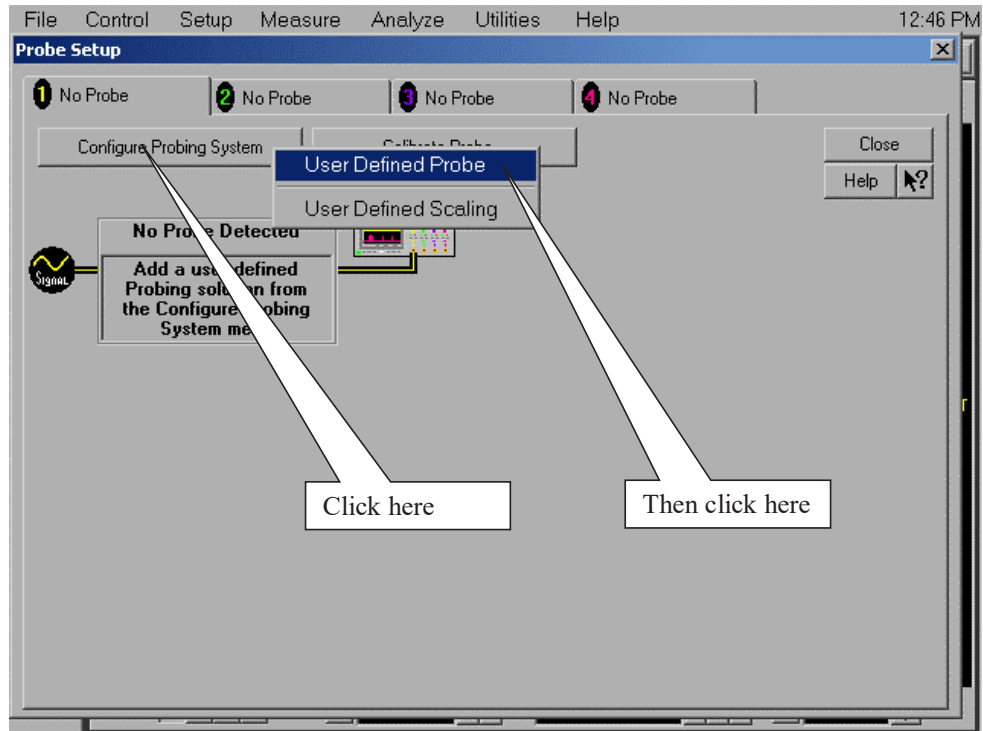

Figure 9 Probe Setup Window.
- 3 Referring to Figure 9 below, perform the following steps: